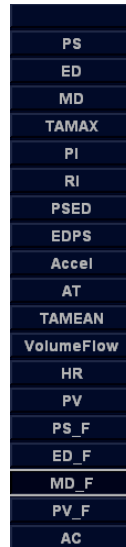

Figure 11-27. Pop-up menu
1. The first row, indicating Right or Left, is not displayed when the side is not defined in the vessel. In the third column on the second line, you select the calculations. Move the cursor to the third column, and the pop-up menu is displayed as in Figure 11-27. The selected parameter is displayed in every third column.